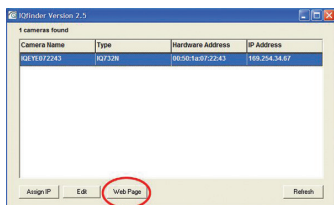
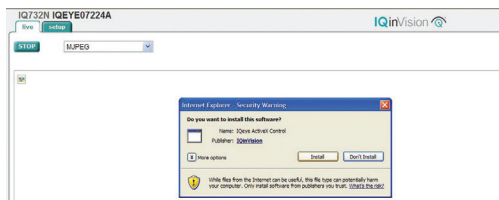

Figure 14
Figure 15
4. To view a camera, double click a camera entry or highlight a camera in the list and click the “Web Page” button (Figure 14). The “Live” page will be displayed through the default browser (IE recommended). It is also possible to open Internet Explorer and enter the IP address of the IQeye camera in the address field of the browser. If prompted, install the Active X control (Figure 15).